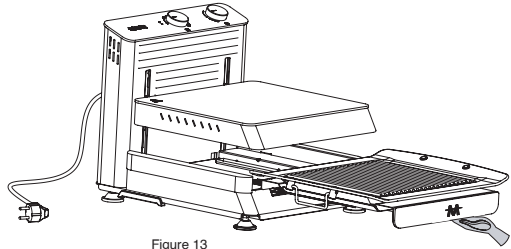
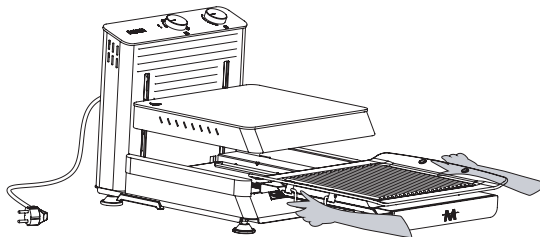

Figure 13
Figure 14
- After completing the cooking process with the product, turn the power switch located at the back of the product to the (0) position and unplug the power cord from the outlet.
- When you are sure that the product has cooled down, hold the handle and pull it towards you (Figure 13) and remove the tray and grill inside the product. (Figure 14).